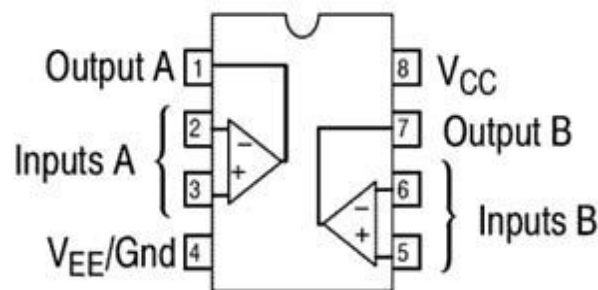
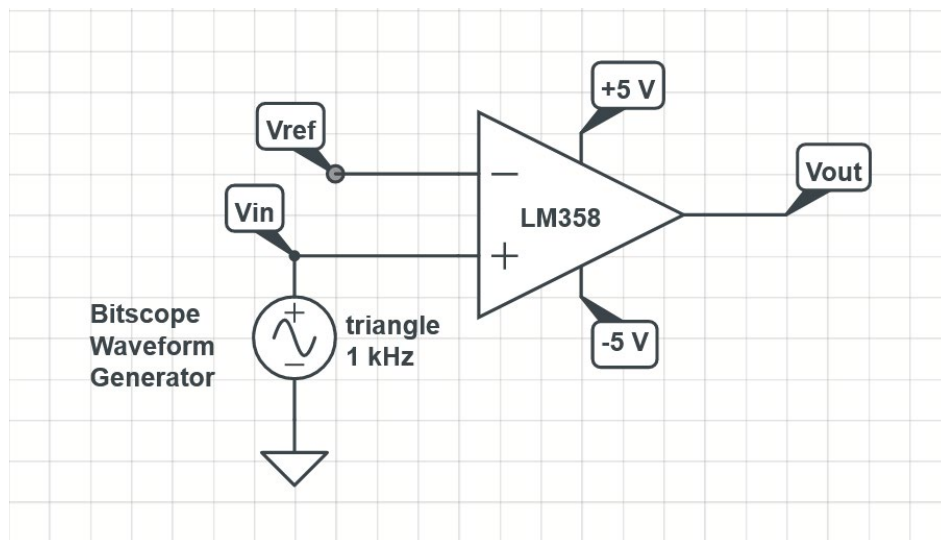
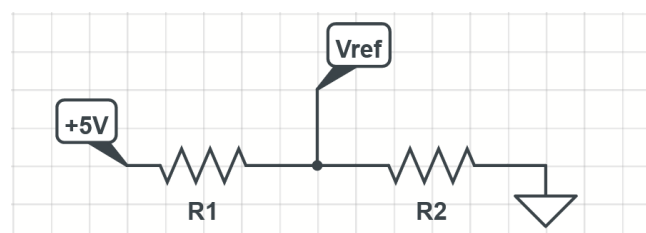
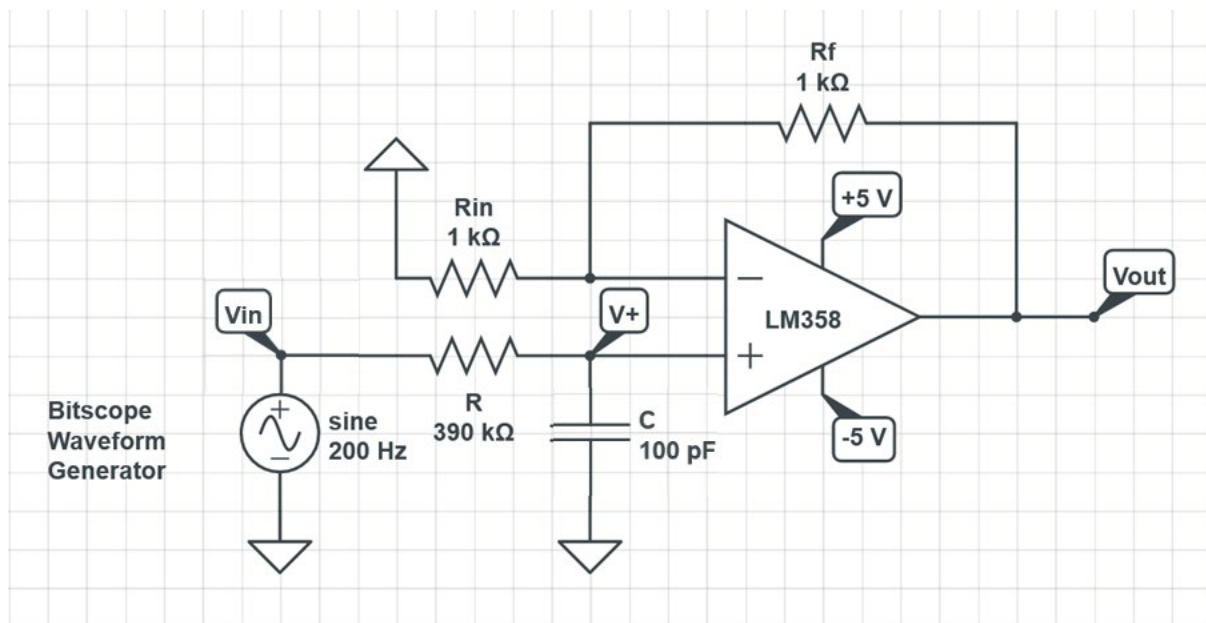

Figure 2: Pinout diagram of LM358
Figure 3: Non-inverting Comparator
Figure 4: A Voltage Divider Circuit
Figure 5: Active Low Pass Filter
The pinout diagram of LM358 is given in Figure 2 below.
- Construct the circuit given in Figure 3 on the breadboard. Refer to the pinout diagram of the LM358 chip (Figure 2) while making the connections. You can choose to use either one of the op-amps (A or B) for your circuit.
- Design the reference voltage (V_{ref}) to be around 1.6V. You can use a voltage divider circuit as shown in Figure 4. Connect the V_{ref} terminal of Figure 4 to the V_{ref} terminal of Figure 3. (Hint: Use a variable resistor as R2 to get your desired V_{ref})
7. Connect “CHA” and “AWG” from the Bitscope to the V_{in} and “CHB” to the V_{out} in Figure 3. Remember to connect the “GND” terminals of “CHA” and “CHB” to the “GND” terminal of the circuit.
In this activity, we will be building an active low pass filter that uses an RC network and test it. The circuit diagram is given below in Figure 5.
2. Construct the circuit given in Figure 5 on the breadboard. Refer to the pinout diagram of the LM358 chip (Figure 2) while making the connections. You can choose to use either one of the op-amps (A or B) for your circuit.
5. Connect "CHA" and "AWG" from the Bitscope to the V_{in} and "CHB" to the V_{out} in Figure 5. Remember to connect the "GND" terminals of "CHA" and "CHB" to the "GND" terminal of the circuit.